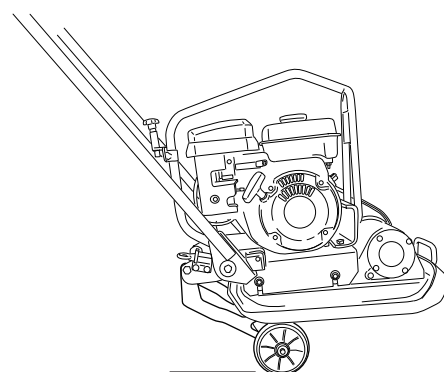

Fig.12
4. Pull back the handle to the rear, and lift up the vibrating plate by cart. Then, move the plate compactor keeping horizontal position (fig. 12).